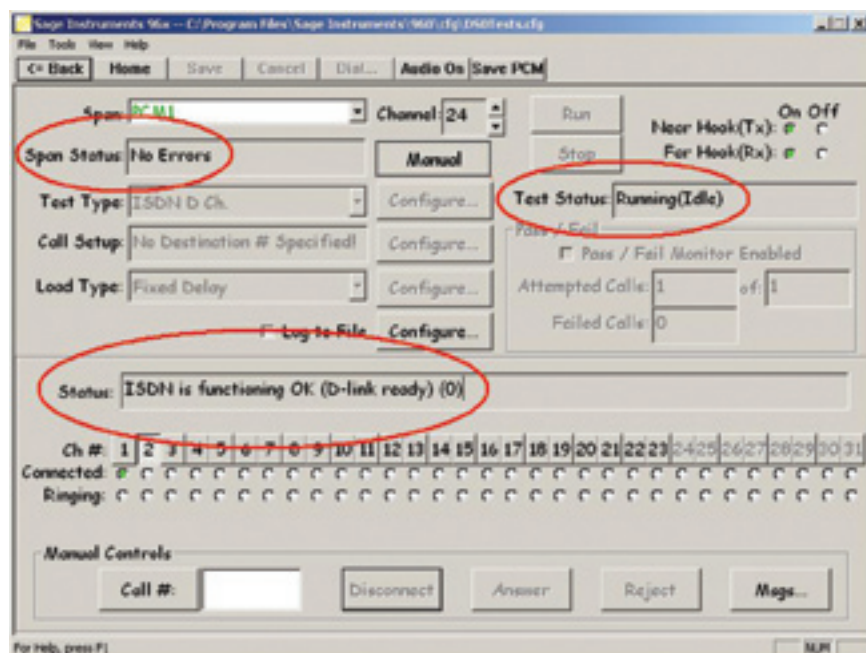

Figure 131
1. Configure the ISDN D Channel test on PCM1 as described on pages 44, 45 and 46 using the default channel 24. Repeat the steps and configure PCM2. Now the ISDN D Channel test is running on PCM1 and PCM2 on the default channel 24. Check to make sure this is the case. Your main test screen on both PCM1 and PCM2 for channel 24 should look like figure 131. Verify the following; Span Status: **No Errors**, Test Status: **Running(Idle)**, Status: **ISDN is Functioning OK (D-link ready) (0)**.